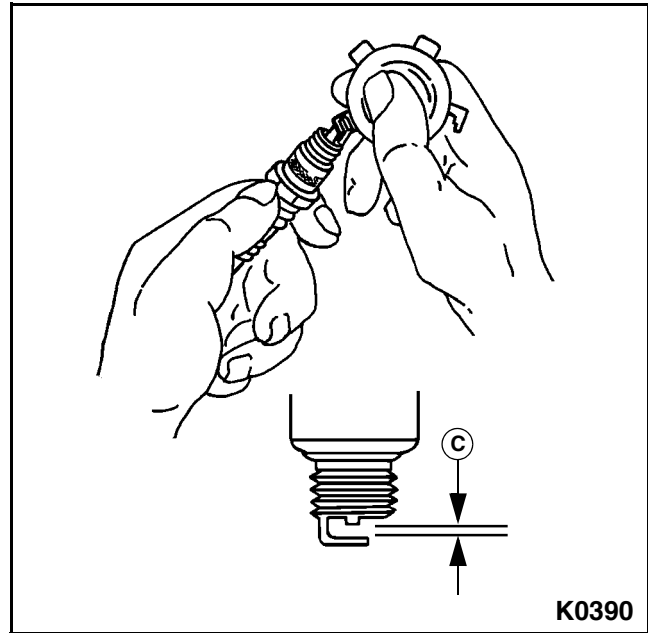

Figure 5-11
8. Use a spark plug gap tool to measure the gap (C) on each spark plug. Adjust the gap to specification. See Figure 5-11.